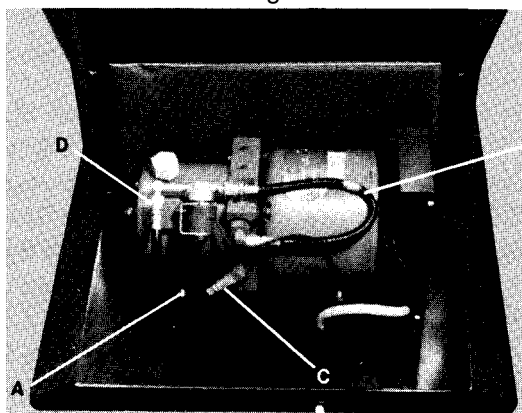

Fig. 36
- 2) Remove the (3) motor leads T1, T2, and T3 from terminal board in Control Box. See Wiring Diagram on Page 28 and Removal of Control Box on Page 7.
- 5) Remove the (4) hex nuts, Item A, Fig. 36, securing the motor base in place.
- 6) Tilt motor base and remove the (2) hex bolts securing the motor/pump to the motor base.
- 9) Remove the short pump hose, Item B, Fig. 36, from the pump by removing the fitting with 7/16" & 9/16" wrenches.
- 10) Remove the power hose, Item C, Fig. 36, from the pump by removing the fitting with 7/16" & 9/16" wrenches.
- 13) Place new motor/pump on motor base, align holes on the underside and install (2) 1/2" lockwashers and (2) 1/2"-13 x 3/4 hex bolts.
- 15) Replace power hose, Item C, Fig. 36, on pump, tightening the fitting securely with 7/16" and 9/16" wrenches.
- 16) Replace short pump hose, Item B, Fig. 36, on pump, tightening the fitting securely with 7/16" and 9/16" wrenches.
- 18) Place motor base on shock mounts, align holes, and install (4) 1/4" lockwashers and (4) 1/4"-20 hex nuts, Item A, Fig. 36.
- 21) Replace the (3) motor leads T1, T2, and T3 on the terminal board. See Wiring Diagram on Page 28.